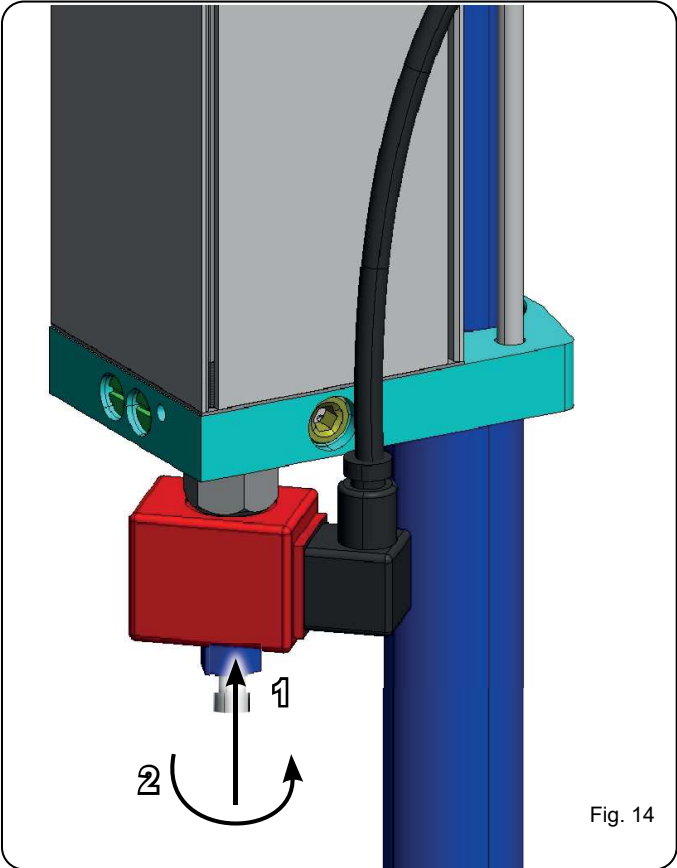

Fig. 14
- 2. press completely the pin at sight on the solenoid valve (fig. 14 ref.1)
- 3. turn the pin to end of stroke as shown in figure (fig. 14 ref.2).